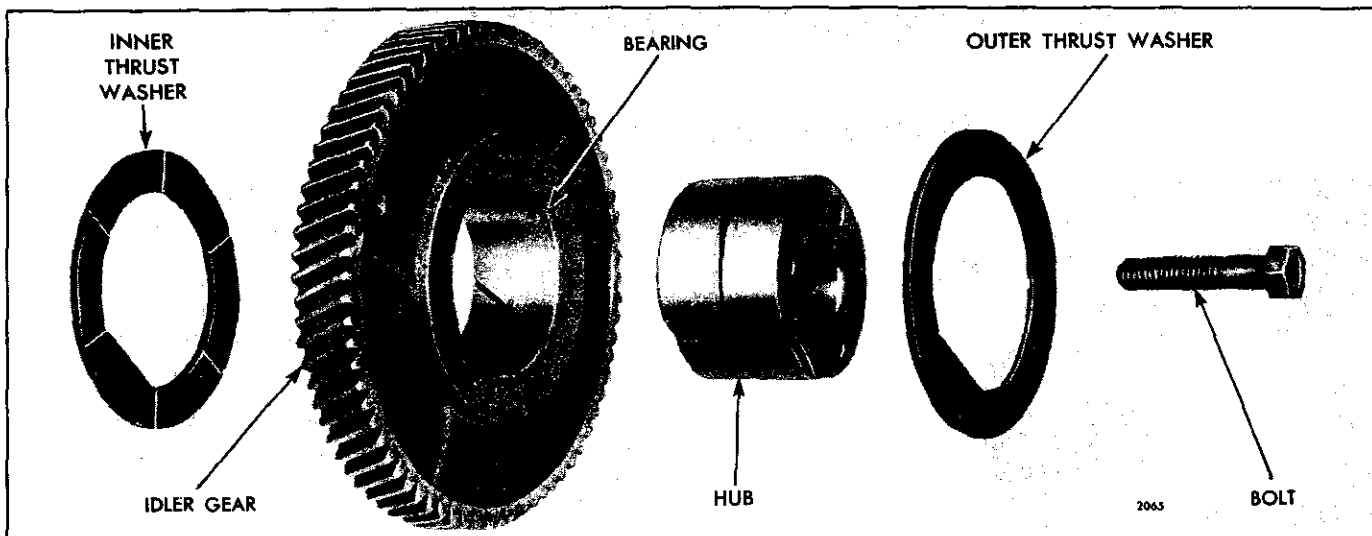

Fig. 2 – Idler Gear Details and Relative Location of Parts
7. With these timing marks in alignment, install the idler gear (Fig. 2).